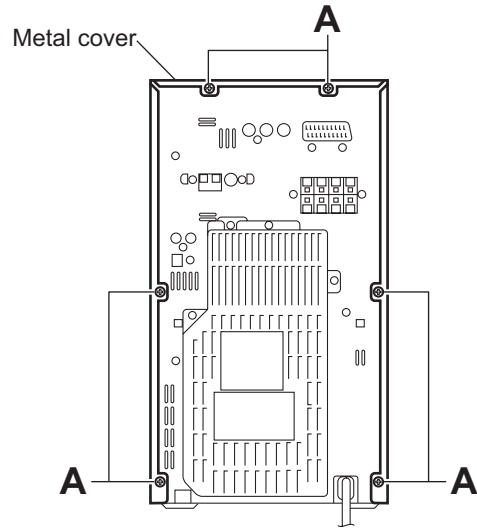

Fig.1
#### 3.1.1 Removing the metal cover (See Figs.1 to 3)
- (1) From the back side of the main body, remove the six screws **A** attaching the metal cover. (See Fig.1.)